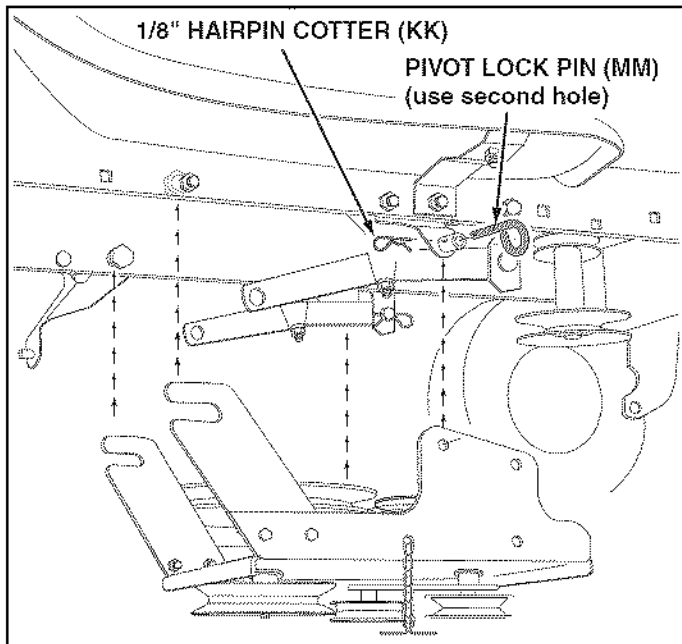

FIGURE 45
STEP 46: (SEE FIGURE 45)
- Attach the clutch/idler assembly to the tractor frame as follows. Hook the assembly's notched arms onto the two shoulder bolts you assembled to the inside of the tractor frame. Lift the front of the assembly and attach it to the R.H. and L.H. hanger brackets using two pivot lock pins (MM) and 1/8" hairpin cotters (KK).
NOTE: To prevent the chain from dragging on the ground, loop the end of the chain through the pivot lock pin. Refer to figure 45 on page 20.